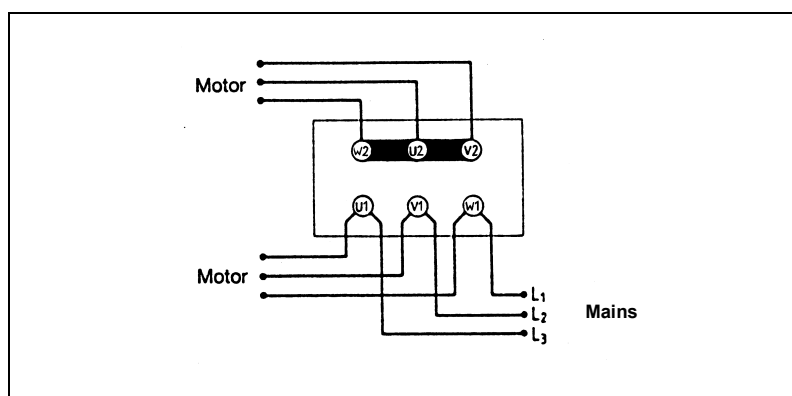

Fig. 10: Y-Connection (high voltage)
4. Connection of pumps with 3 phase motor according to figs. 10 or 11.